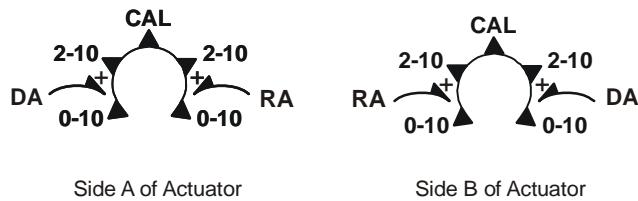

Figure 13: Mode Selection
Actuators have an external mode selection switch to calibrate, select input signal range, and reverse control logic. The switch is accessible from both A and B sides of the actuator as illustrated in Figure 13. Actuators are delivered in Direct Acting (DA), DC 0 to 10 V input signal mode. To change to Reverse Acting (RA) mode, move the mode selection switch from DA to RA. The input signal range is selectable between DC 0 to 10 V or DC 2 to 10 V. If the CAL function is not used, both input signal ranges are proportioned across the full rotation range of 0 to 95° rotation.